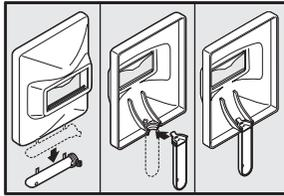

Figure 7
1. Cut detachable handle away from shield. Trim the excess plastic to remove sharp edges (see Figure 7).
2. To attach the handle, place shield on a flat surface and press handle into place (see Figure 7).